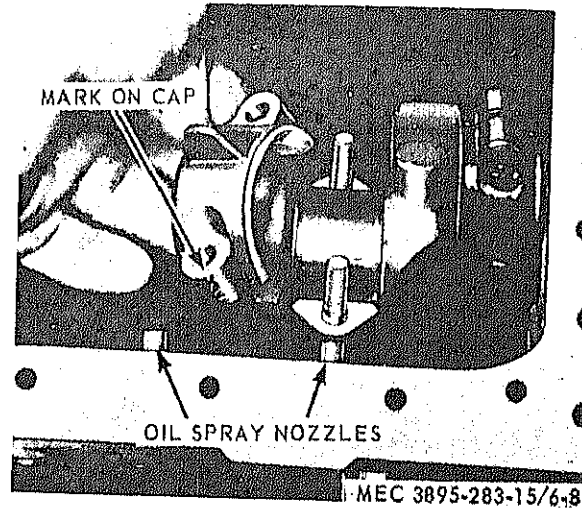

Figure 6-8. Piston and Connecting Rod Removal.
a. Removal (fig. 6-8).
- (1) After removal of the oil pump, all of the connecting rod bolts will be accessible.
- (2) Remove nuts and then tap ends of bolts lightly to free the connecting rod caps from the bolts.
- (3) Push rod with piston up through the cylinder (cylinder heads previously removed).
- (4) Replace cap on the rods immediately